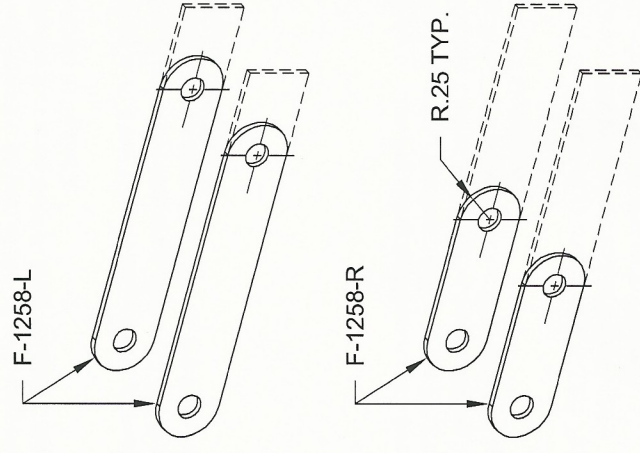

FIGURE 5: TRIMMING THE RUDDER CABLE LINKS
Step 10: Trim the F-1258 Rudder Cable Links as shown in Figure 5. The rudder cable links with the holes closer together are the F-1258-R, those with the holes farther apart are the F-1258-L.